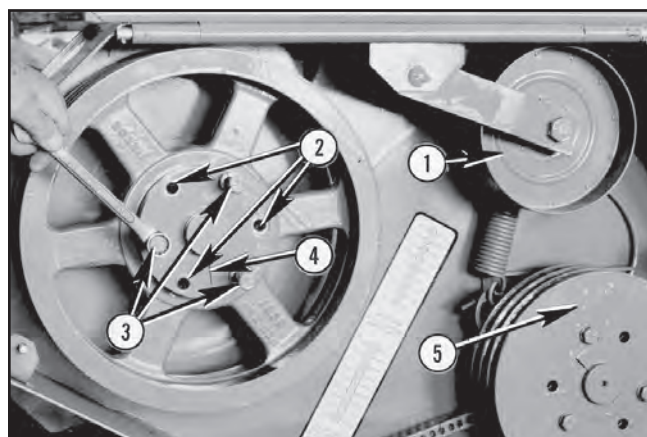
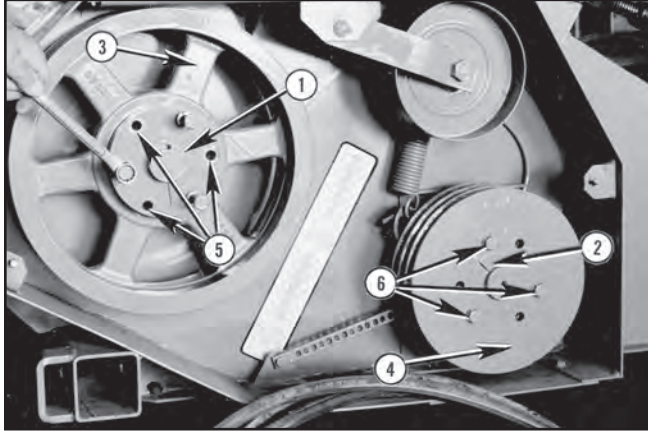

FIGURE 56
FIGURE 57
1. Loosen and remove belts and driven sheave. See Fig. 56, page 27.
- Refer to Figure 56, for sheave loosening procedure and adjust driveR sheave's inner bushing Item 6 in Photo 3009A in or out as required for realignment. Then reinstall sheave per Figure 57, page 28.
- For installation refer to Figure 57 page 28, insure the tapered mating surfaces of the inner bushing Items 1 or 2 in Photo 3010C and sheave Items 3 or 4 are free of dirt, paint, rust, metal chips and LUBRICANT.
Servicing this bearing requires removing the driver sheave. See Figure 56, page 27. Paint must be polished off drive shaft to permit bearing removal.